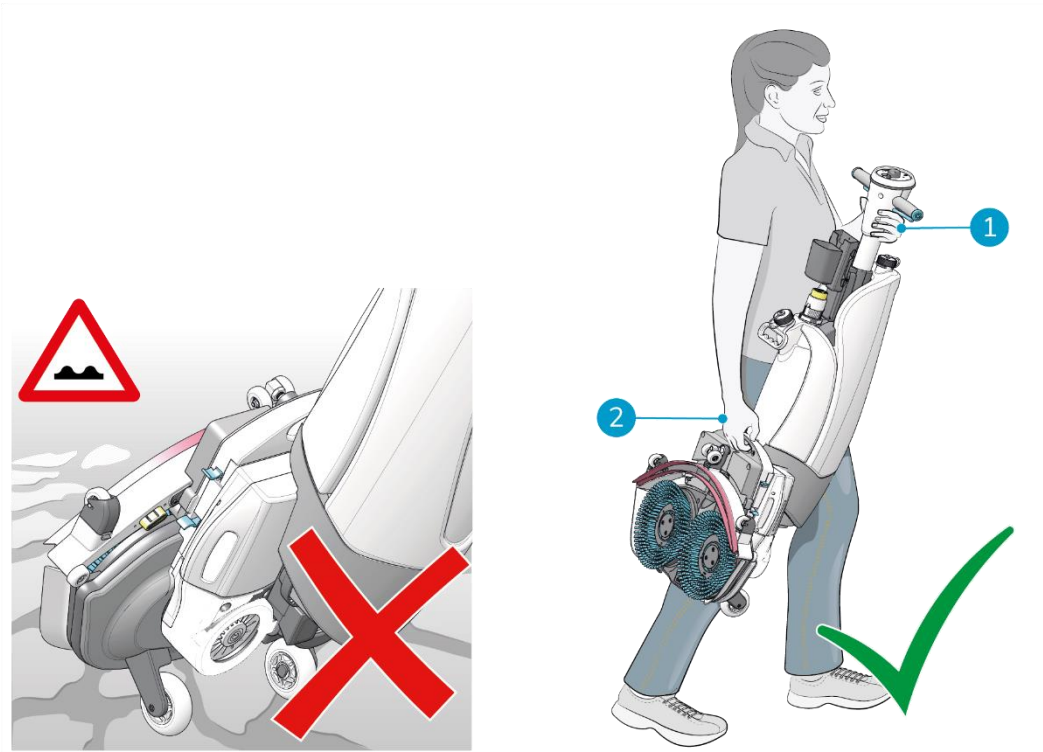

Figure 7
2. Carry the i-mop XXL Pro with one hand (Figure 7, pos. 2) while holding the handle with your other hand (Figure 7, pos. 1).